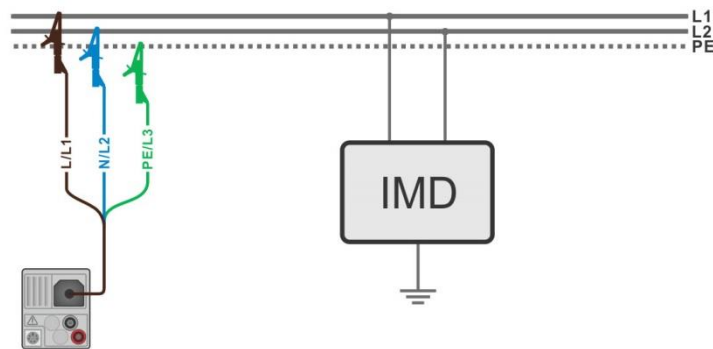

Figure 8.13: AUTO IT measurement
- › Connect test leads to the object under test, see **Figure 8.13**.